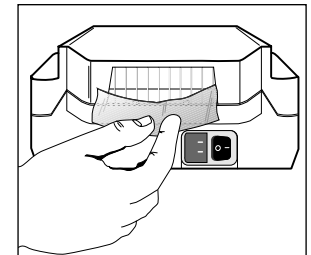

Figure 10
2. For weekly cleaning, remove the dirty foam filter from the frame **Figure 10**.